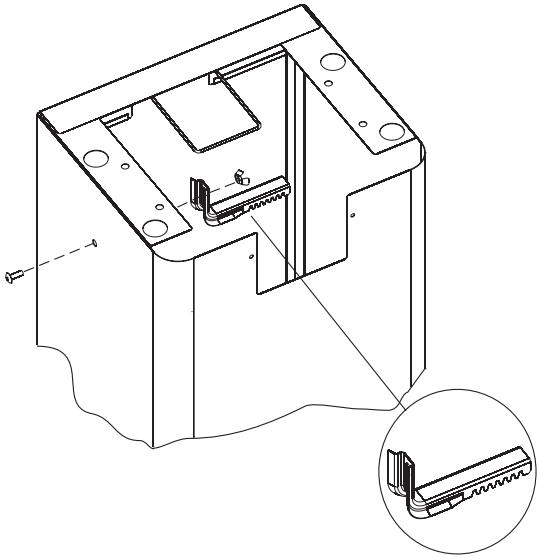

FIGURE 11
Install one 1/4-20 x 3/4 phillips head screw into the factory installed nut on the Left Side of cart. Figure 11.
Fasten the Cylinder Retainer (3) to the screw with a wing nut. Adjust height to accommodate your LP cylinder. Figure 11.